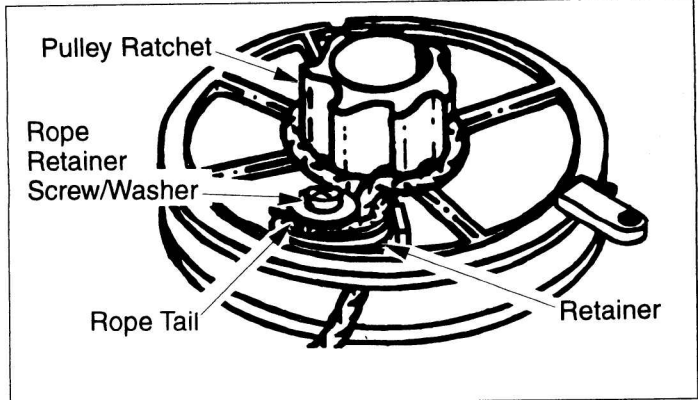

Figure 24
- Install and tighten the retainer screw/washer. Figure 24.
- NOTE** – Do not overtighten the retainer screw. Overtightening the screw can cause the screw post to strip out. Tighten the screw until the bottom of the washer either (1) is snug against the rope or (2) contacts the top of the screw post.